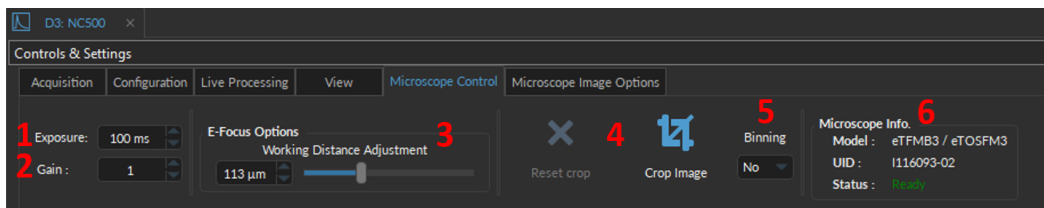

Figure 11.91: *Microscope Control Tab*
The **Microscope Control** (Fig. 11.91) specifies microscope settings that change the quantity/quality of images the microscope sensor collects. These settings directly affect data recording in *.doric* file, and include:
1. The **Exposure (ms)** textbox (Fig. 11.91, 1) specifies the length of time that the microscope sensor collects light from the sample. This value is inversely related to the **FPS** of the device, such that a 100 ms exposure corresponds to 10 FPS (accordingly, a 200 ms exposure corresponds to 5 FPS, and so on).
2. The **Gain** text-box (Fig. 11.91, 2) corresponds to the relative amplification measure applied to the sensor. Note that increasing the gain will simultaneously increase both the signal and noise. Four options of gain (1-4) are available.
3. The **E-Focus Options** (Fig. 11.91, 3) allows users to adjust the **Working Distance** of the microscope focus using a slide bar from 0 to 350 μm for Twist-on *efocus fluorescence microscope*.
4. The **Crop Image** button (Fig. 11.91, 4) allows to select a square portion of the image by dragging the mouse cursor on the selected image region. Releasing the cursor will automatically crop the displayed image. To reset the image to its original pixel size, Press the **Reset crop** button. **Note:** In order to crop an image, a frame must be loaded into the **Microscope View**, which can be done using either **Live** or **Record** buttons (Fig. 11.7, 1 & 2).
5. The **Binning** drop-down (Fig. 11.91, 5) averages the pixels values based on the binning value selected: either none, 2x2 or 4x4 pixel squares will be average together. This reduces the number of pixels for smaller save file sizes. Note that **Size** of the frame will be automatically adjusted based on the binning:
6. The **Microscope Info.** (Fig. 11.91, 6) displays the following device information: